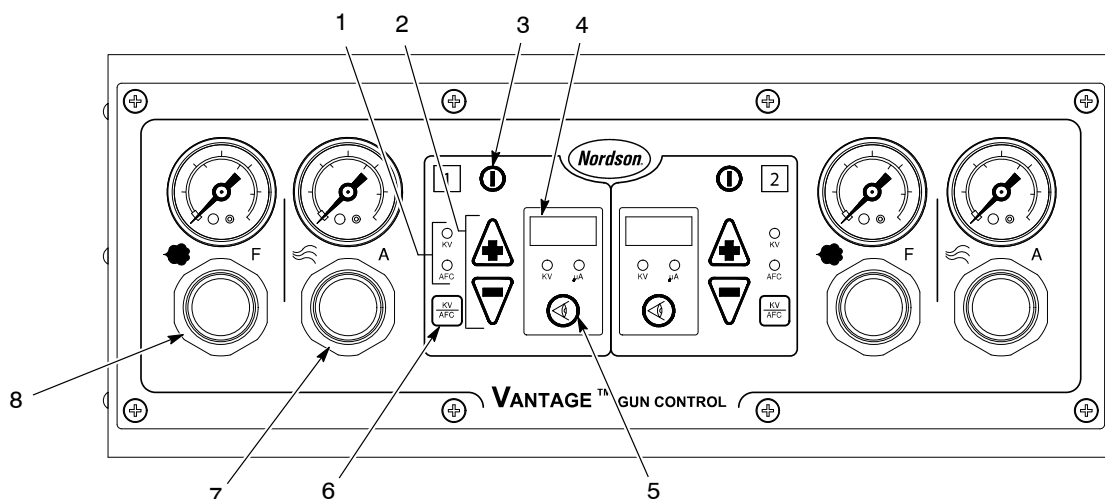

Figure 4-1 Front Panel Controls and Indicators
4. See Figure 4-1. Select an operating mode by pressing the kV/AFC button (6) on each controller. The selected mode LED (1) will light.
5. Set flow rate (8) and atomizing air pressures (7) to the following settings:
3. See Figure 4-1. Press the VIEW key (5) to display μA .